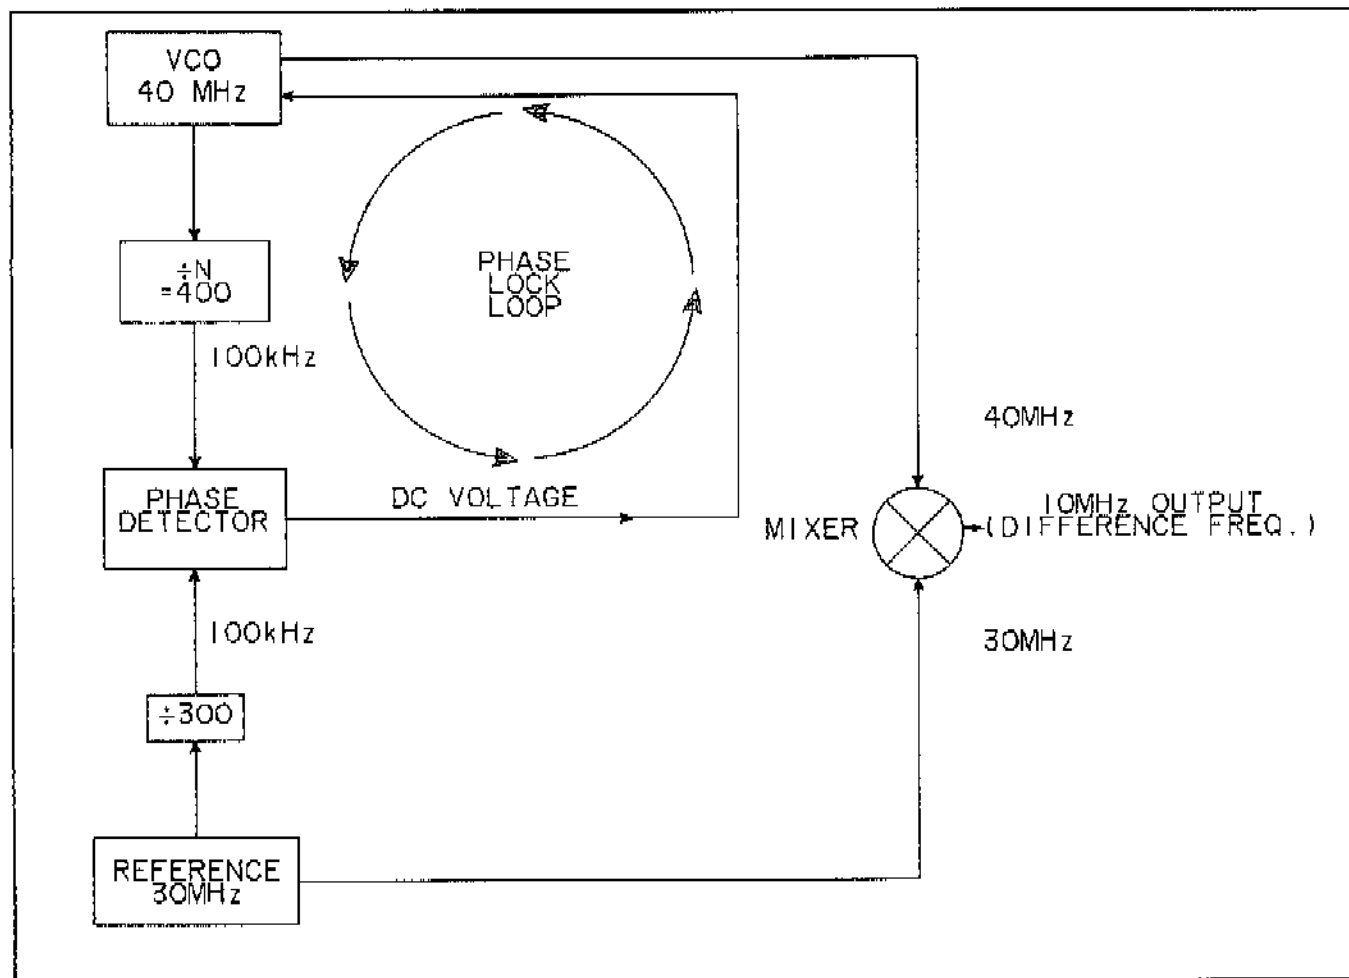

Figure 8-8. Phase Lock Loop.
**8-26.** How does the 3325A generate a given frequency? Assume that the output desired is an even 10 MHz. A method for obtaining this frequency is illustrated in Figure 8-8. Basically, the 3325A uses this method.
**8-27.** The frequency of the VCO (Voltage Controlled Oscillator), in Figure 8-8, is controlled by the dc voltage out of the phase detector. This dc voltage reflects any phase change between the two detector input signals. Consequently, if the VCO frequency changes, the phase detector output changes to correct the VCO. This is known as a phase lock loop (PLL).